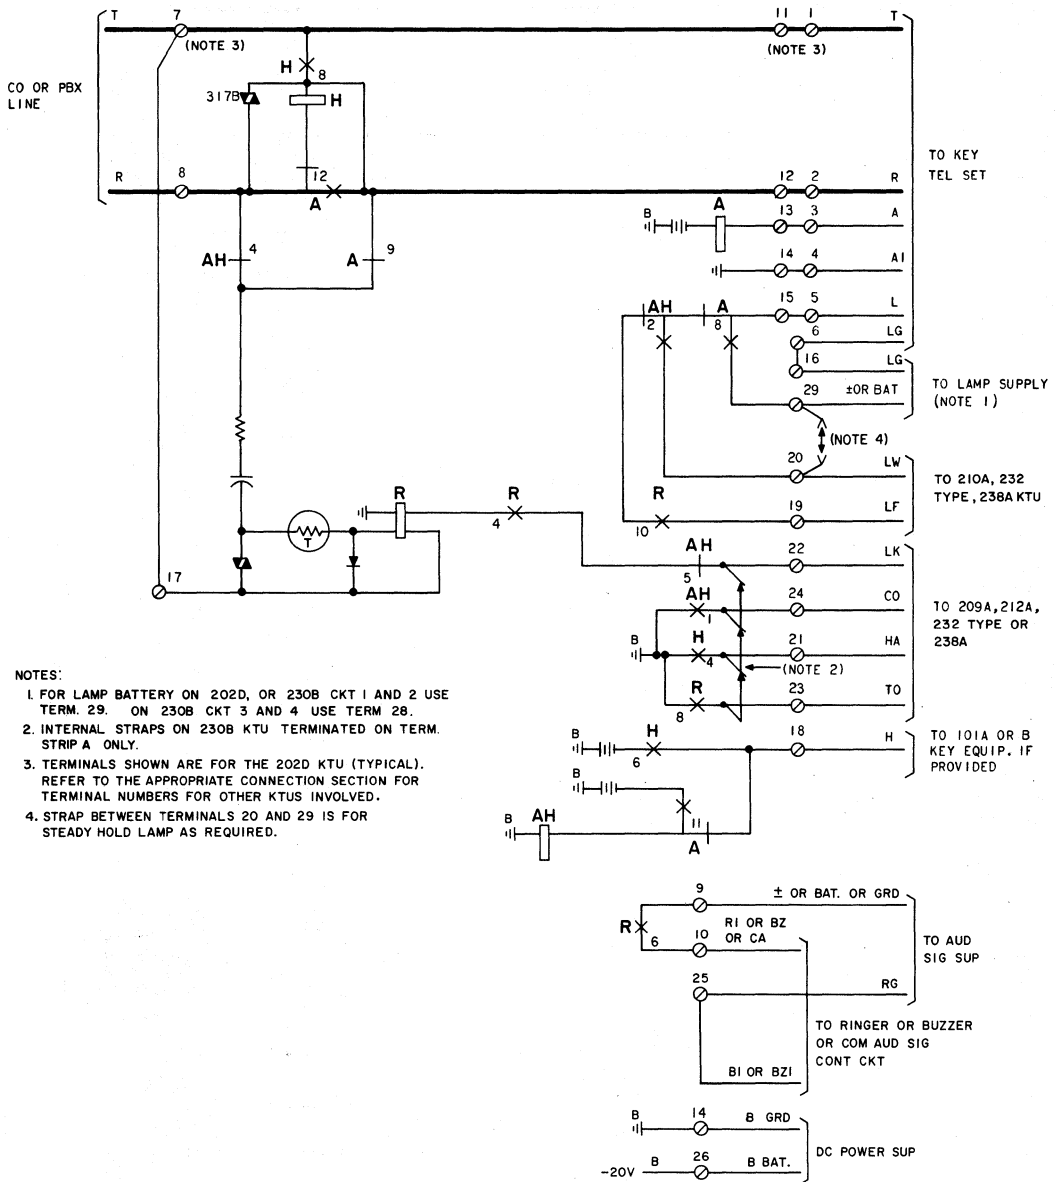

Fig. 4 Functional Schematic of 202D, 230B, 238A (Line Circuit Portion) and 239A KTUs (CO or PBX Line Circuits)
2.20 The 230A KTU (Fig. 3) is the equivalent of five 202C line circuits, and the 230B KTU (Fig. 4) is the equivalent of four 202D line circuits.
2.25 The 238A KTU (Fig. 16) is the equivalent of nine 202D (Fig. 4) KTUs. It also contains circuitry to provide all the functions of the 232A or 232B KTUs (See 2.21).
2.26 The 239A KTU is the equivalent of eleven 202D (Fig. 4) KTUs. The 239A KTU is arranged in line groups of 4-4-3 and each line group can be associated with its own time-out and auxiliary interrupter equipment.